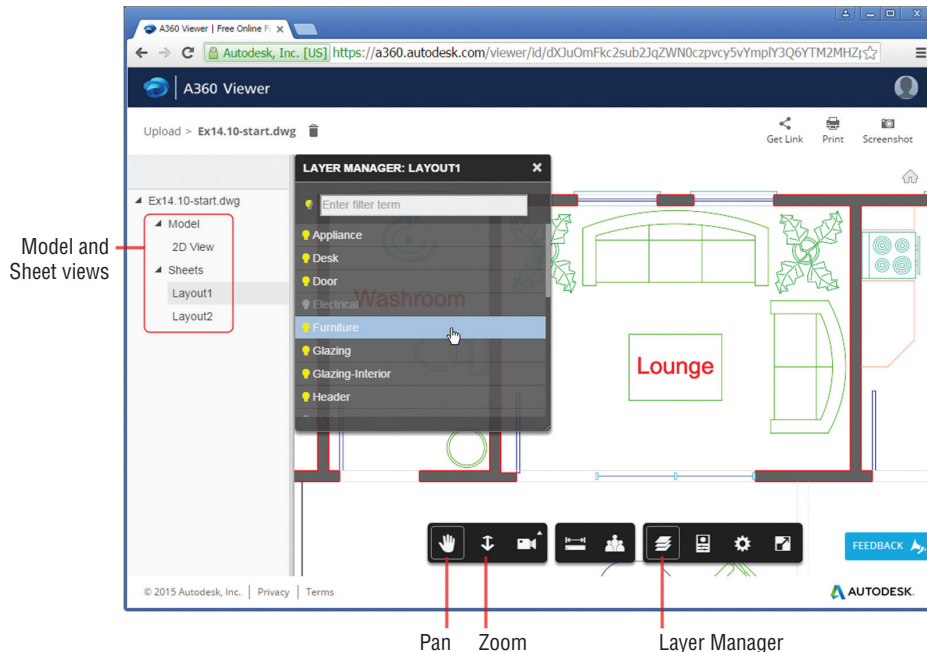

FIGURE 14.29 A360 Viewer's Layer Manager
- After a few minutes, your default browser will launch automatically and open an anonymous, encrypted link displaying the A360 Viewer. A list of all the drawing's model and sheet views appears in the left pane (see Figure 14.29). Try navigating the drawing using the pan and zoom controls. Open the Layer Manager and toggle off the Electrical and Lighting layers if they are not already off.